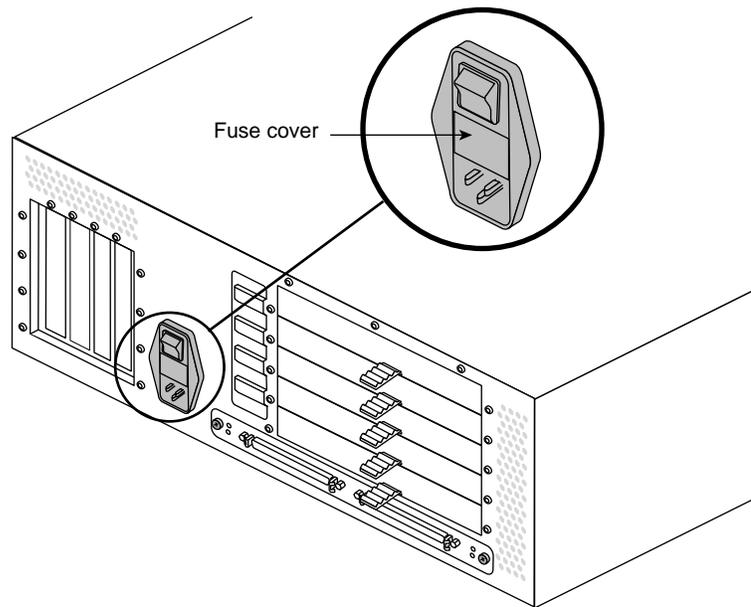

Figure 5-43 Location of the Fuse Cover in the GIGACHannel Expansion Chassis
2. Locate the fuse cover on the GIGACHannel chassis, which is part of the power plug housing. See Figure 5-43.